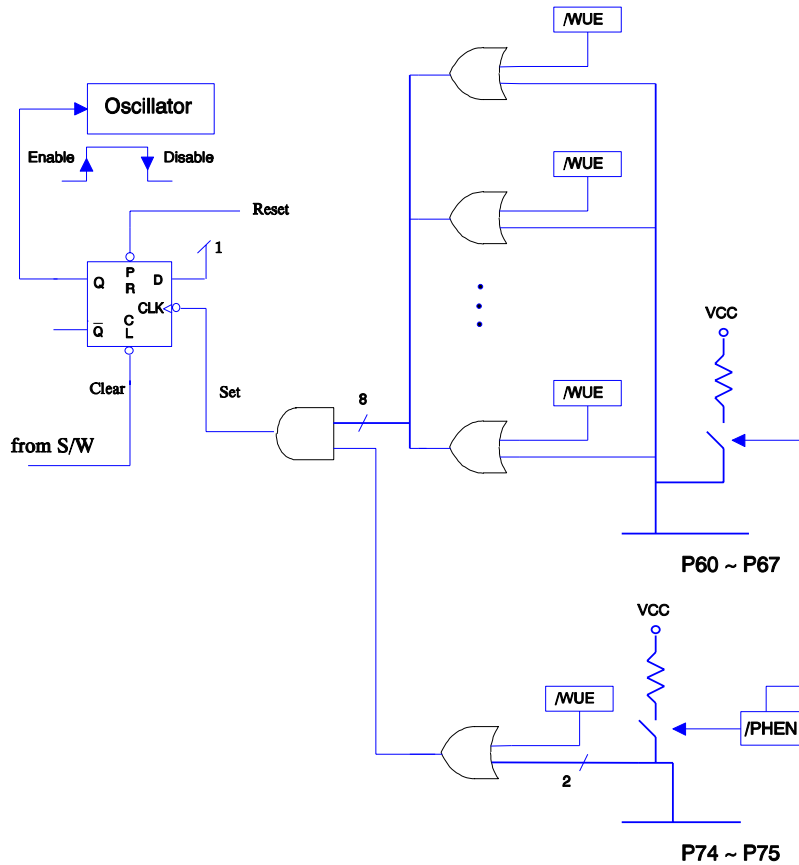

Fig. 5 Block diagram of sleep mode and wake-up circuits on I/O ports
Bit 4 (SLPC) This bit is set by hardware at the falling edge of wake-up signal and is cleared by software. SLPC is used to control the operation of oscillator. The oscillator is disabled (oscillator is stopped, the controller enters the SLEEP2 MODE) on high-to-low transition on SLPC bit and is enabled (the controller is awakened from SLEEP2 MODE) on low-to-high transition on SLPC bit. In order to ensure the stable output of the oscillator, once the oscillator is disabled and is enabled again, there is a delay for approximately 18 ms (oscillator start-up timer, OST) before the next instruction of program being executed. The OST is always activated by wake-up from sleep mode whether the Code Option bit WTC is “0” or not. After waking up, the WDT is enabled if Code Option WTC is “1”. The block diagram of SLEEP2 MODE and wake-up caused by input triggered is depicted in Fig. 5.
- (a) input triggered, refer to Fig. 5. When wake-up, the controller will continue to execute program in-line. In this case, before entering SLEEP2 MODE, the wake-up function of the trigger sources (P60~P67, and P74~P75) should be selected (e.g. input pin) and enabled (e.g. pull-high, wake-up control). One caution should be noted is that after waking up, the WDT is enabled if Code Option bit WTC is "1". The WDT operation (to be enabled or disabled) should be appropriately controlled by software after waking up.